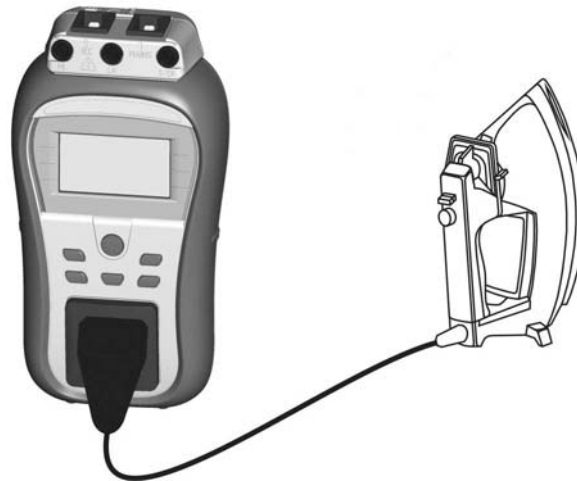
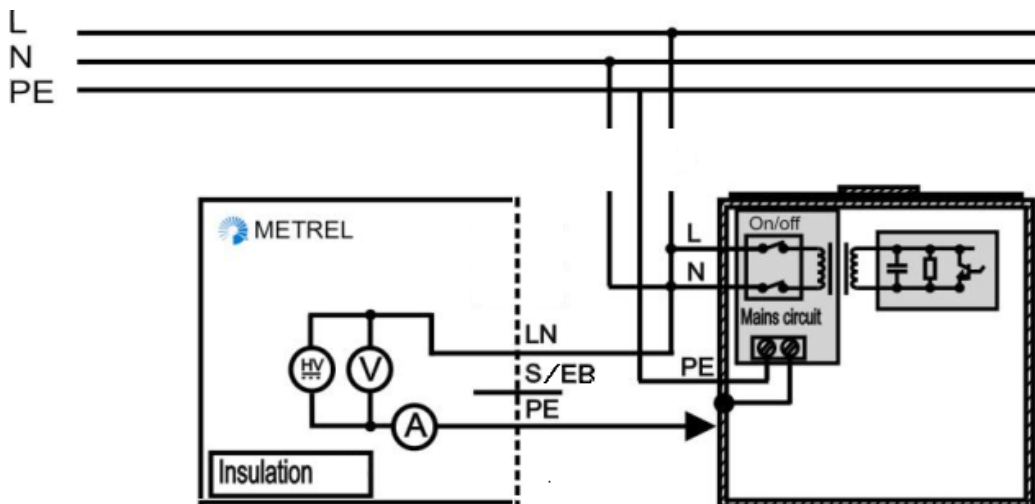

Figure 5.9: Measurement of insulation resistance
Figure 5.10: Measurement of insulation resistance of fixed installed DUTs of Class I
- ▶ Connect device under test to the instrument (see **Figure 5.9** and **Figure 5.10**).